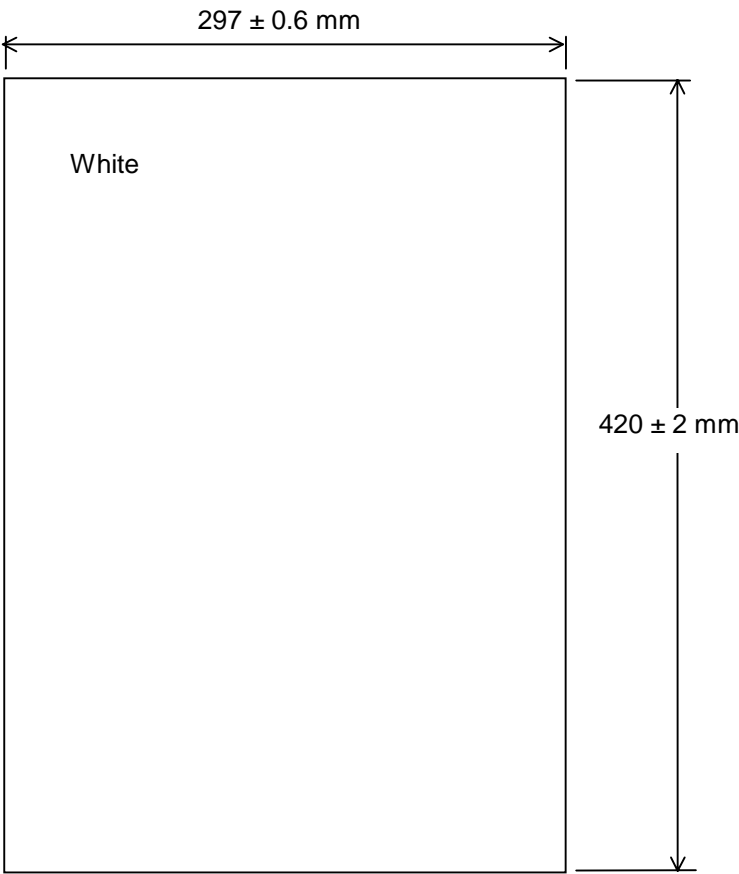

Figure 5-1-3. Test sheet for the magnification/offset adjustment
Before this adjustment, please prepare the A3-size white sheet described in Figure 5-1-3.
Before this adjustment, please prepare the Test sheet described in Figure 5-1-3.
- (2) Change the selection by pressing **Function** button.
- (3) Set the test sheet (see Figure 5-1-3) on the Chute unit (ADF paper chute), and adjust the side guide to the width of the test sheet.
Use the same sheet as used for the magnification adjustment. See Section 5-1-3, Figure 5-1-3.